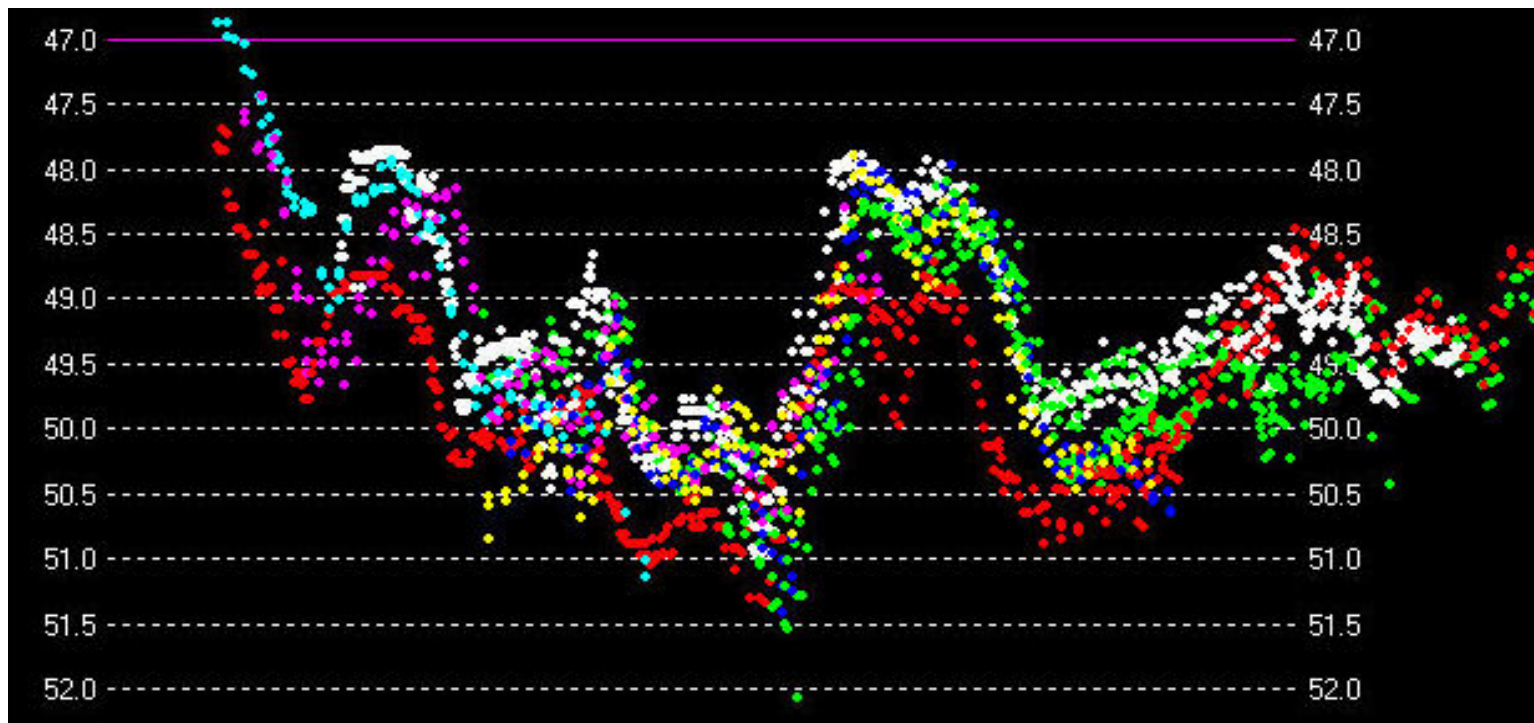

Figure 6. Example of Multiple Passes of Survey Vessel
- Figure 6 could merely represent a rough bottom condition, but extreme bottom conditions only shows up when multiple survey passes are overlaid